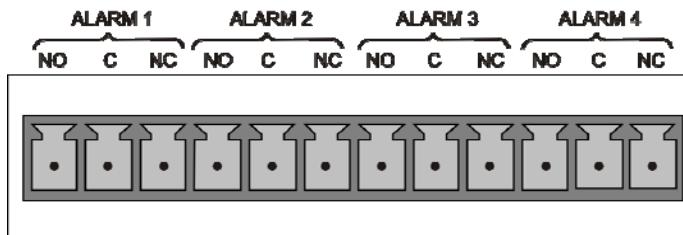

Figure 3-11: Concentration Alarm Relay
The Teledyne API T-Series analyzers have an option for four (4) "dry contact" relays on the rear panel of the instrument. This relay option is different from and in addition to the "Contact Closures" that come standard on all TAPI instruments. The relays have three pins that have connections on the rear panel (refer Figure 3-11). They are a Common (C), a Normally Open (NO), and a Normally Closed (NC) pin.